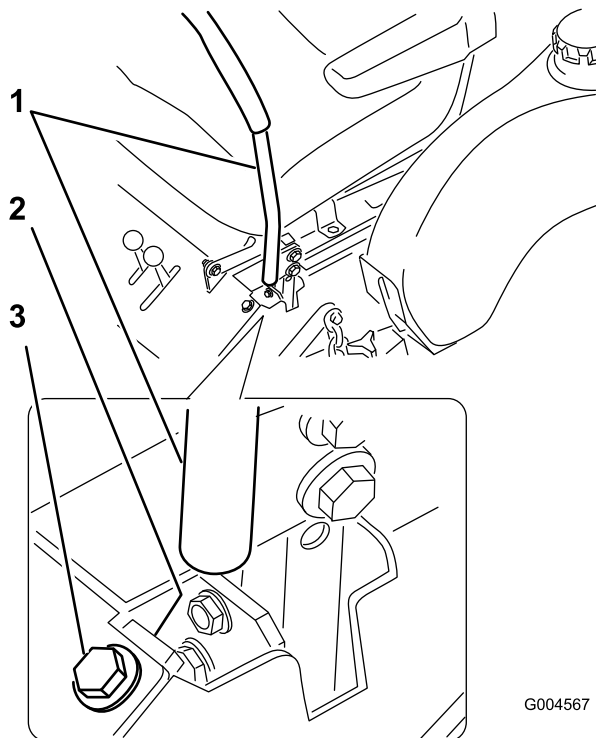

Figure 50
3. Move the stop until the machine drives straight (Figure 50).
4. Tighten the bolt located in front of the control lever (Figure 50).